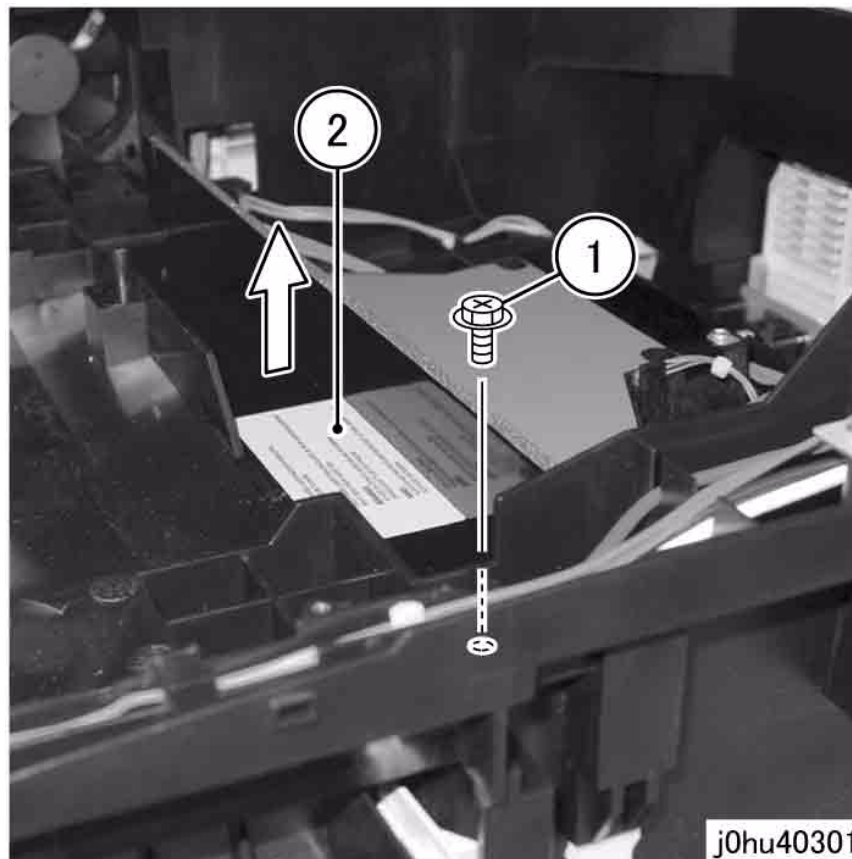

Figure 2 Remove Laser Housing
5. Remove the Laser Housing (Figure 2).